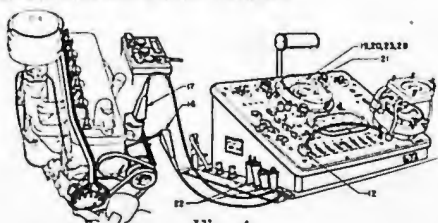

Fig. 4
- 16 Disconnect the low tension wire that runs from the distributor to the coil at the coil. Connect the positive low tension lead to this wire. (Fig. 4)
- 17 Connect the negative low tension lead to the coil terminal from which wire was removed. (Fig. 4)